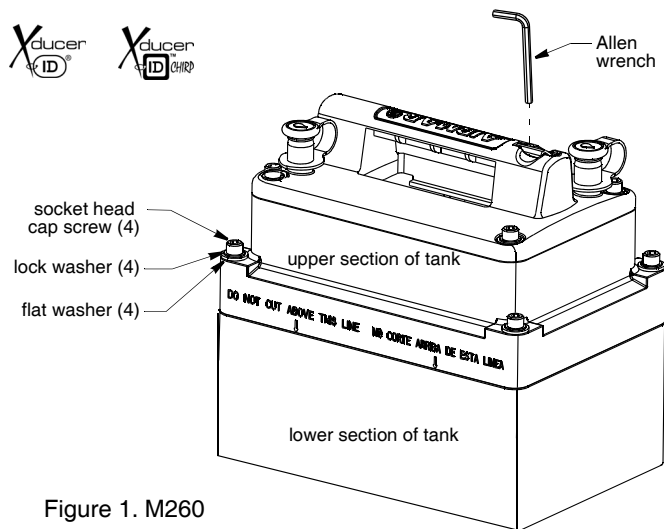

Figure 1. M260
1. The tank can be disassembled for installation in tight places. *Do not disassemble the tank unless it is necessary.* If the tank will be installed as one unit, lightly tighten the socket-head cap screws that hold the two sections of the tank together with a force not exceeding 50 in.-lb. (Figure 1). Use the Allen wrench supplied. **Do not over tighten.** (To remove the Allen wrench from the handle of the transducer, use a blade screwdriver. After use, replace the Allen wrench in the recess.)
5. If the tank is being installed in two parts, reattach the two sections now (Figure 1). Be sure the O-ring gasket is in place around the lip and lubricated. Screw the two sections together using the socket-head cap screws, lock washers, and flat washers supplied. Use the Allen wrench to tighten the screws with a force not exceeding 50 in.-lb. **Do not over tighten.**